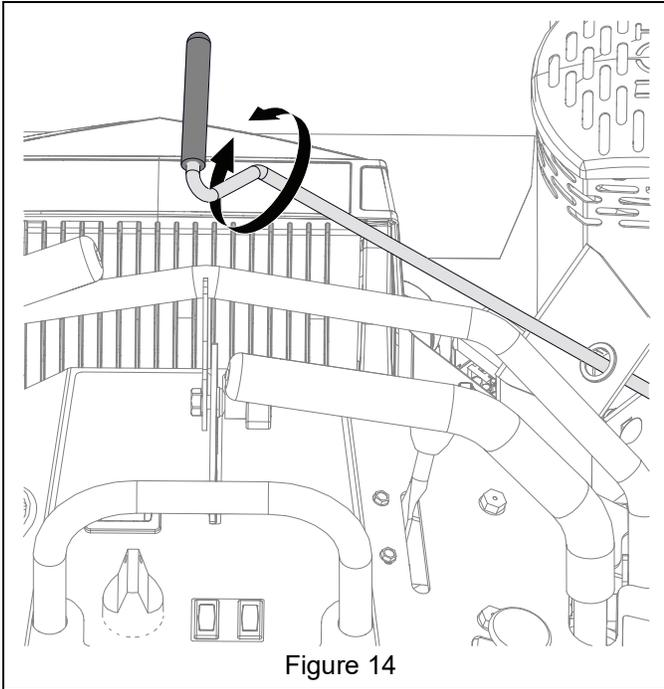

Figure 14
11. Stand on unit and rotate handle to preferred position. See Figure 14.